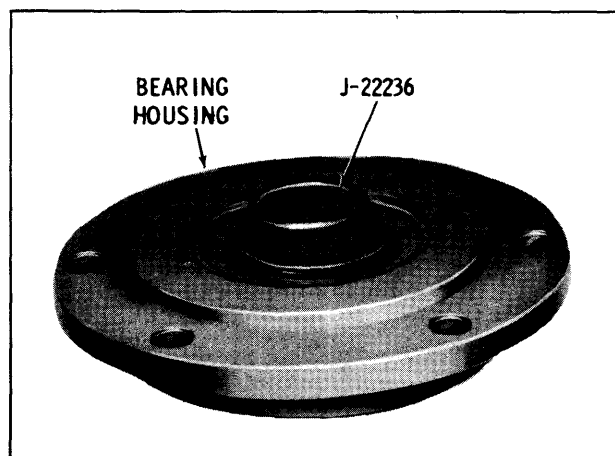

Fig. 3EC-52 Installing Bearing Housing to Housing
8. Position shim into bearing housing and install pinion rear bearing outer race as shown in Fig. 3EC-50.
9. Install seals into bearing housing as shown in Fig. 3EC-51.